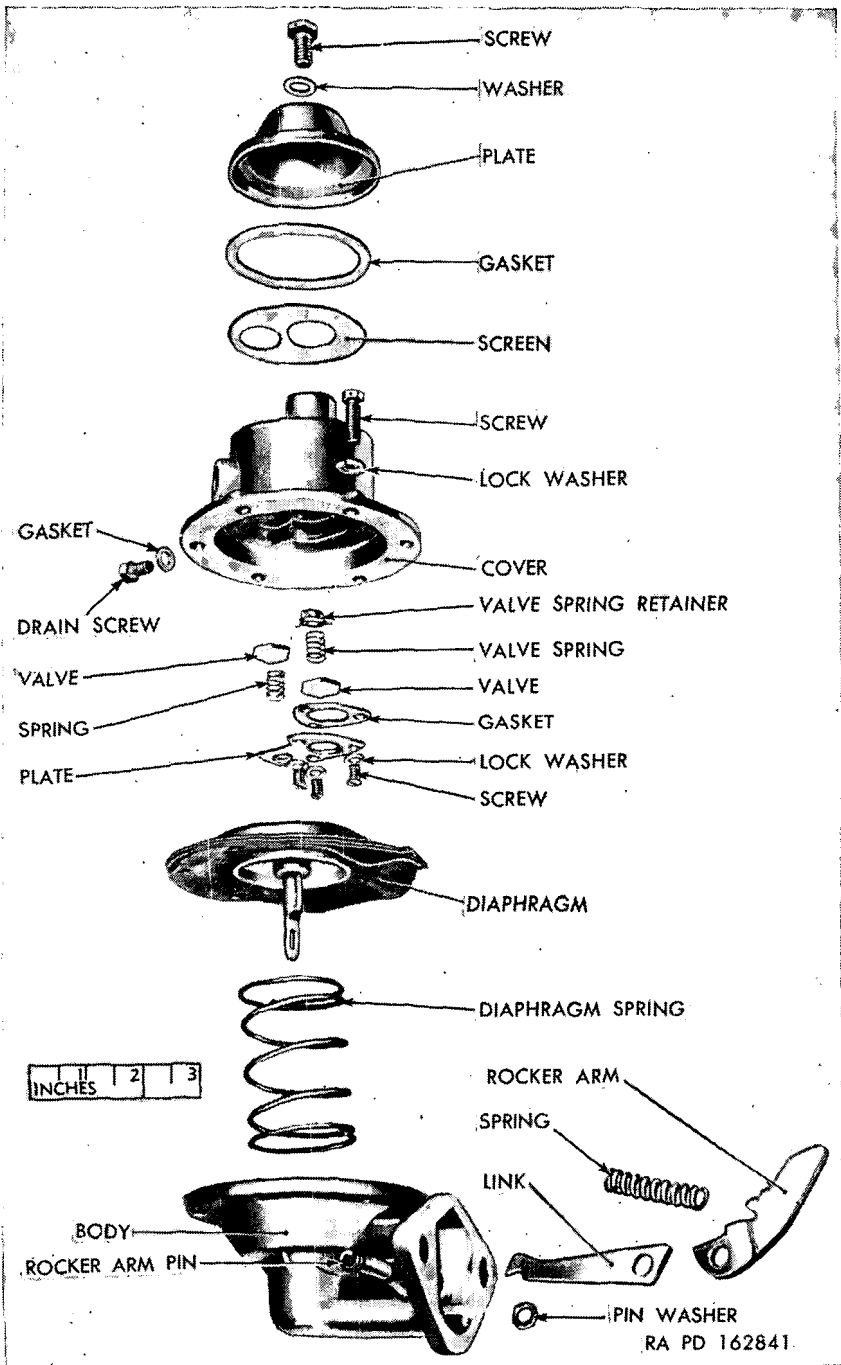

Figure 15. Fuel pump—disassembled (typical series R construction).
(1) Mark edges of top cover and body (fig. 15) with a file. Mark at heat shield stud, if used. The parts may then be assembled in the same relative positions and heat shield stud properly located.
(2) Remove cover screws and lock washers. Also remove heat shield stud, if used. Separate cover from body by jarring cover loose with a light plastic hammer.
a. Assemble Body (fig. 15).
- (1) Assemble link and rocker arm. Insert rocker arm bushing if used. Place rocker arm and link in body with link hook down. Aline rocker arm pin hole with hole in body and drive in rocker arm pin. Install washer on small end of rocker arm pin and spread end of pin. Install rocker arm spring.
- (2) Soak new diaphragm in clean kerosene. Fuel oil may be used, but do not use shellac or sealing compound. If used, install oil seal spring, upper oil seal retainer, two oil seal washers, and lower retainer on the diaphragm pull rod. Turn the lower oil seal retainer 90 degrees to lock in place. Place diaphragm spring over pull rod well and install diaphragm assembly. Hold pump body upside down and press diaphragm against spring. At the same time, tilt the diaphragm